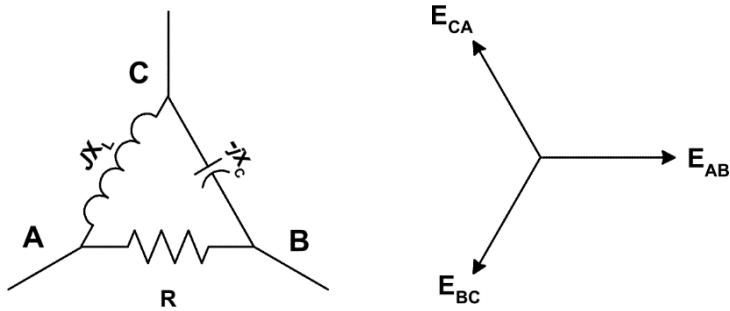

FIGURE 3.2
It sometimes happens that a large single-phase unity power factor load has to be connected to a 3-phase line. This can create a badly unbalanced system. However, it is possible to balance the three phases perfectly by connecting a capacitive reactance and an inductive reactance across the other two lines. The reactance must each have impedances times greater3 than the value of the load resistance Figure 3.2.
- When balancing reactance's are added across the remaining lines, as shown in Figure 3.2.